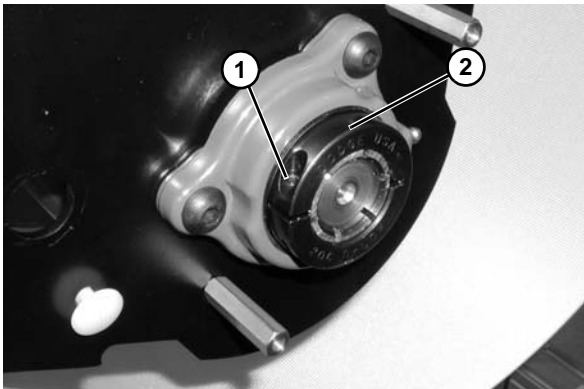

Figure 131
3. Loosen clamp screw (**Figure 131, item 1**) and remove bearing collar (**Figure 131, item 2**).
7. Reinstall bearing collar (**Figure 131, item 2**). Tighten clamp screw (**Figure 131, item 1**) to 95 in-lbs (11 N-m).